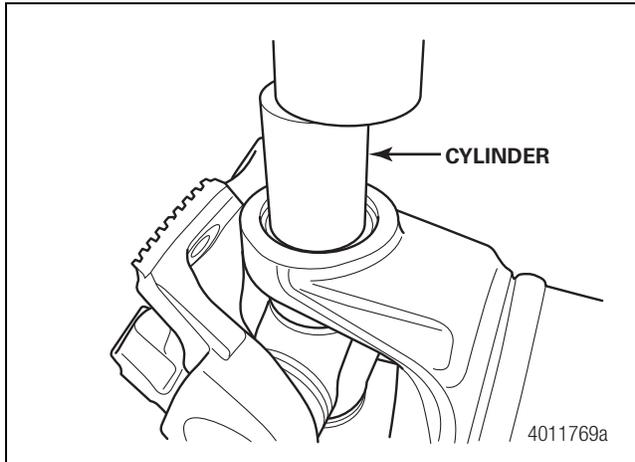

Figure 4.74
- Install the cylinder to press the bushing/bearing assembly down so there is enough clearance for the snap ring to be installed. Figure 4.74.